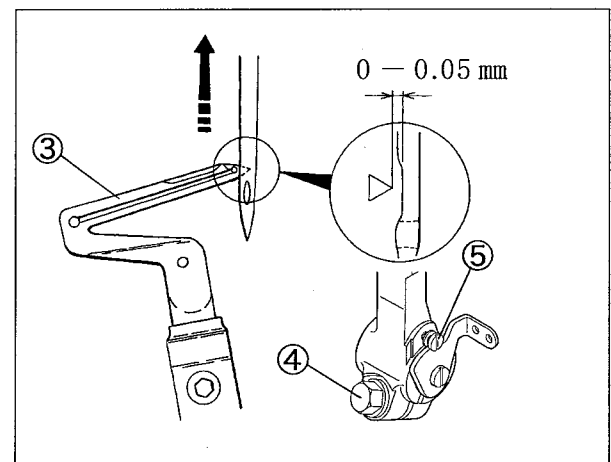

Fig. 6-25
1. After checking the needle heights, tighten screw ① of the needle bar bracket.
3. Once the front-and-rear position of the lower looper has been adjusted, check the distance between the needle and the lower looper, then tighten screw ④ in Fig. 6-25.
4. Apply the liquid packing to the thread of the screw ② when tightening it.